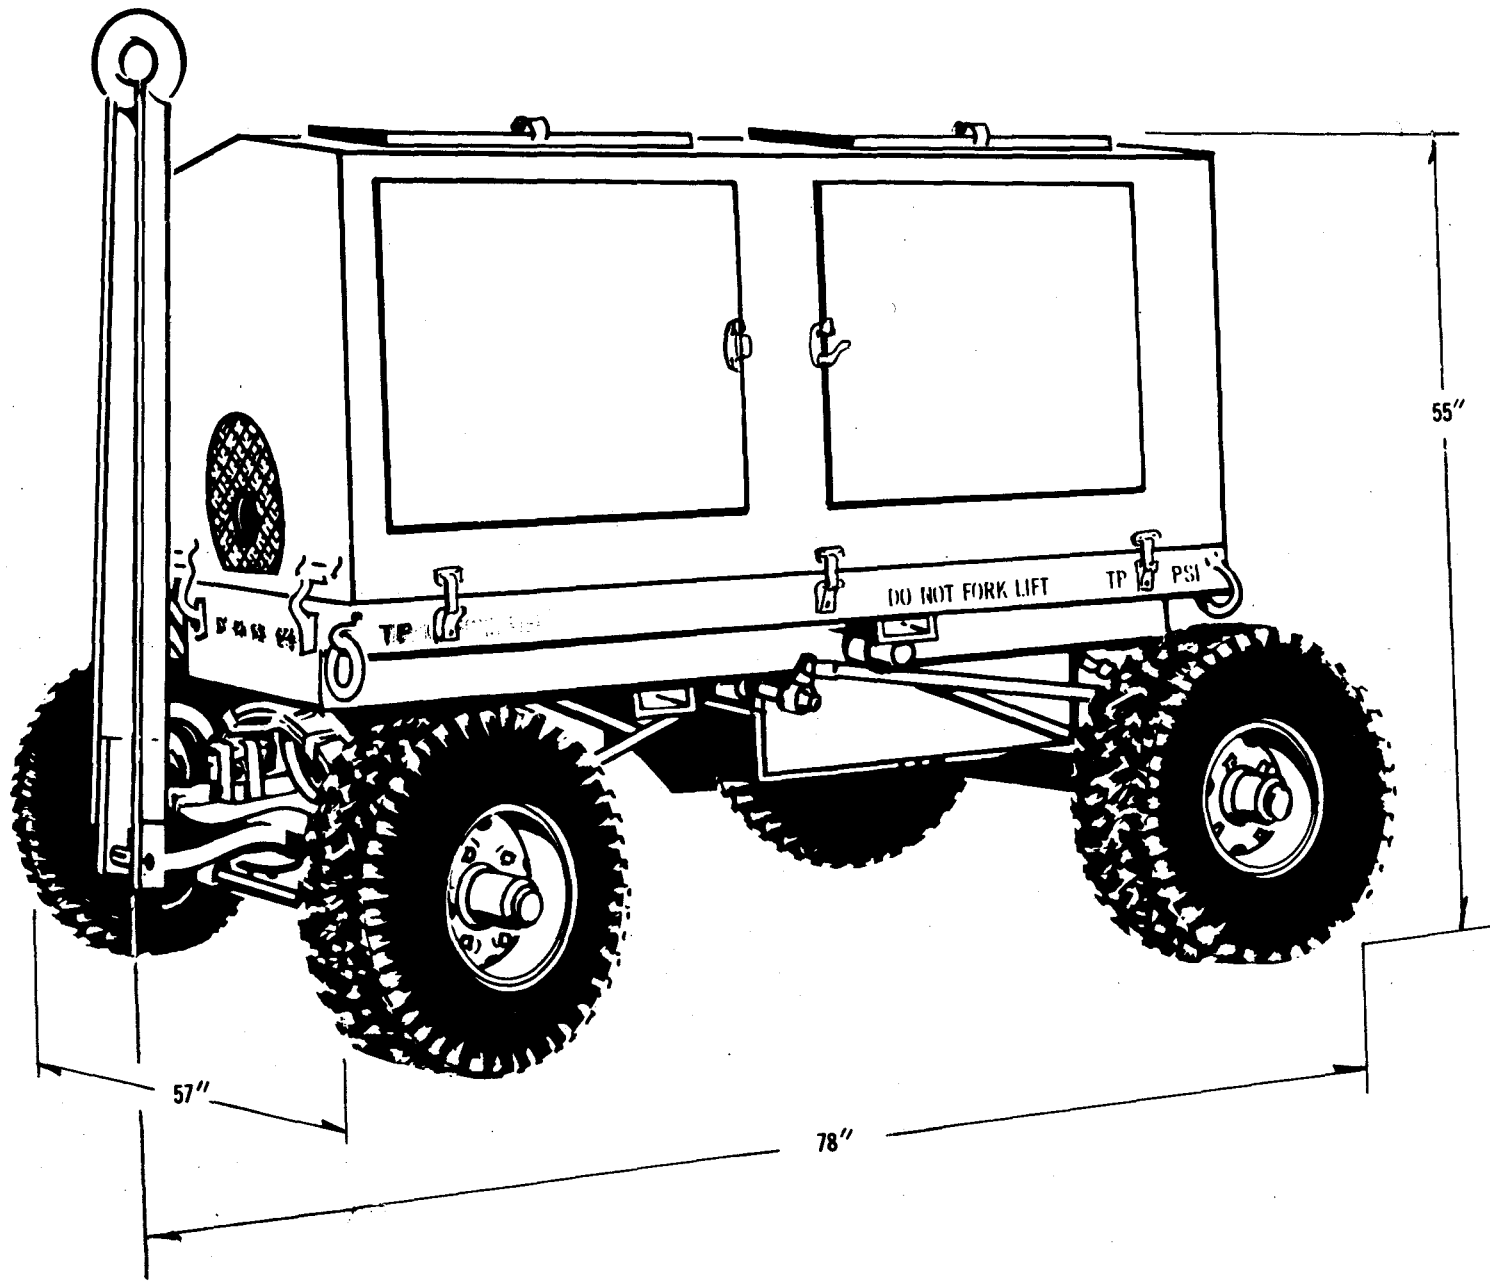

Figure 1-4. Shipping Dimensions
- 1-4. Description.** The aircraft hydraulic test stand consists of a gasoline engine driven, variable volume, variable pressure, axial piston-type hydraulic pump. The necessary controls and instruments are included to select and control the desired phase of operation. The entire unit is trailer mounted for mobility (Fig. 1-1) and protected from weather by a removable housing assembly fitted with hinged doors and access panels. (Fig. 1-2) The purpose of the aircraft hydraulic test stand is to perform the following test operations on aircraft hydraulic systems; flush or fill the system with micronically filtered hydraulic fluid, through high pressure and low pressure hoses (Fig. 1-3) provide a source of hydraulic pressure for testing aircraft hydraulic systems without the necessity of operating the aircraft hydraulic system, including aircraft with pressurized reservoir system dimensions of the D5C Hydraulic Test Stand (Fig. 1-4).